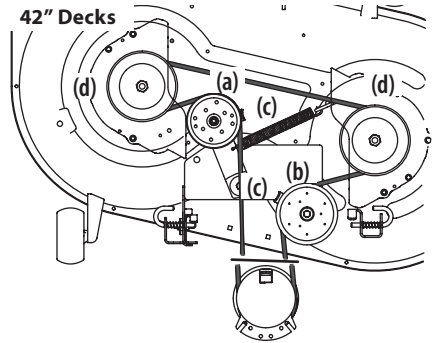
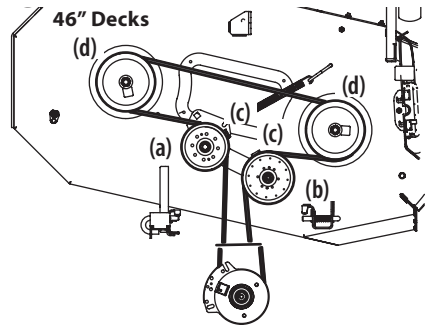
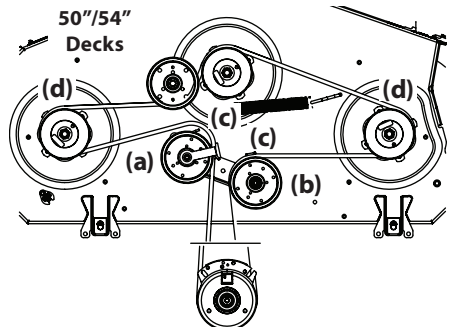
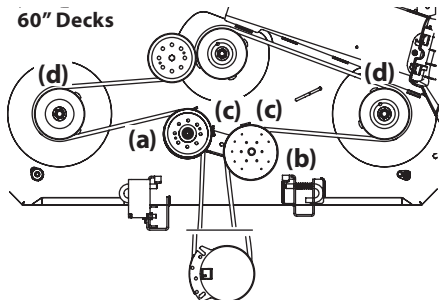

Figure 46
Figure 47
Figure 48
Figure 49
2. Loosen, but do not remove the hardware on the right (a) and left idler pulley (b). Refer to Figure 46 for 42" decks, Figure 47 for 46" decks, Figure 48 for 50" and 54" decks and Figure 49 for 60" decks.